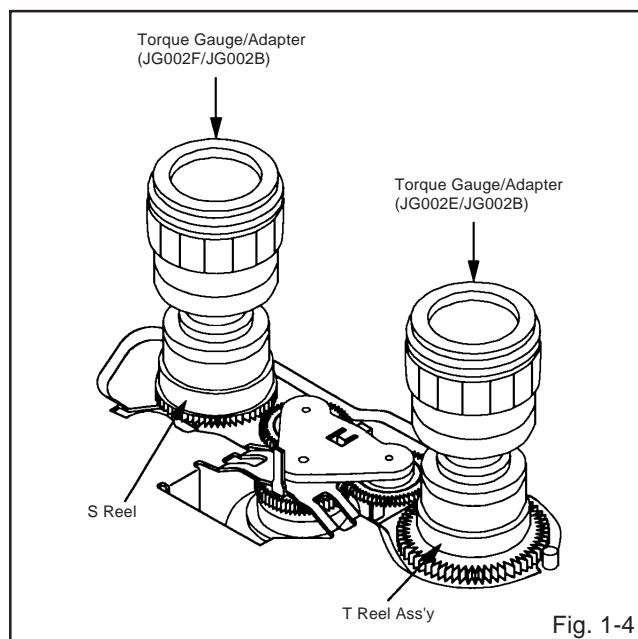

Fig. 1-4
2. Install the Torque Gauge (JG002F) and Adapter (JG002B) on the S Reel. Set to the Rewind mode. (Refer to Fig.1-4)
(S Reel Brake) (Refer to Fig. 1-4)
(T Reel Brake) (Refer to Fig. 1-4)